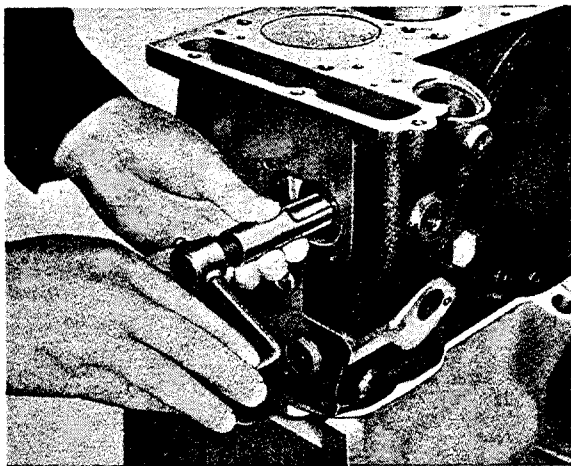

Fig. M 3/26
26. Turn out intermediate gear fastening screw and pull intermediate gear off intermediate gear shaft with tool 187 589 02 35 (M 3/26). Before pulling the intermediate gear, take out distributor drive helical gear (see Fig. M 3/67).
27. Unscrew lock washer for front bearing bushing (see Fig. M 3/43). Pull out inter-